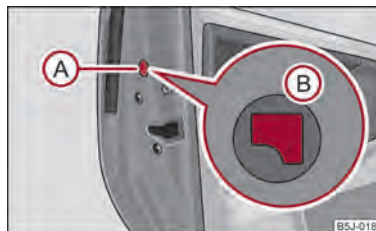

Fig. 14 Emergency locking of the door
- Remove the panel (A) ⇒ fig. 14.
- Insert the key into the opening under the panel and press the stopping lever (B) as far as the stop toward the inside.